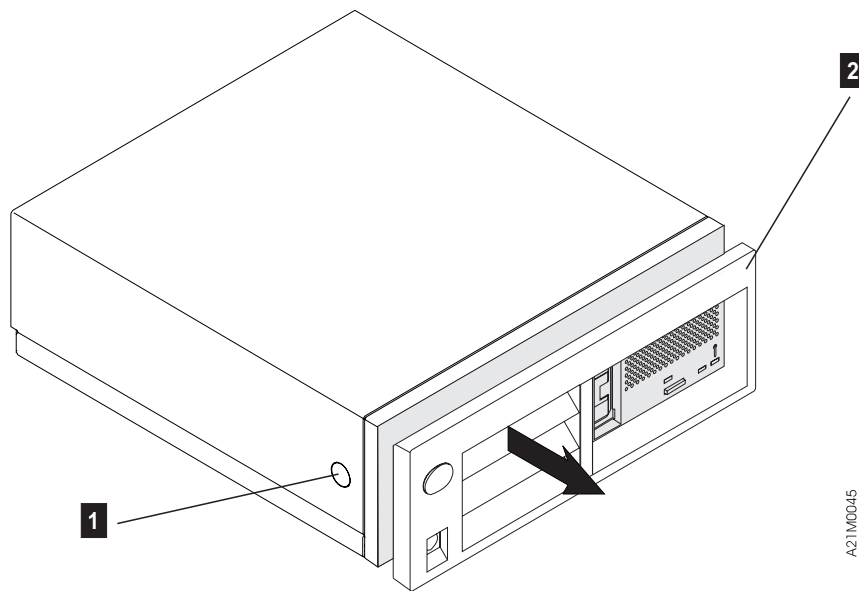

Figure 5. Removal of Model C00 Front Cover
2. Remove the front cover to expose the drive with its drive cover by pressing the buttons on each side of the front cover and pulling forward (see **1** and **2** in Figure 5).
Note: There is a corresponding tab on the opposite side of the chassis to the one shown as **1** in Figure 5.